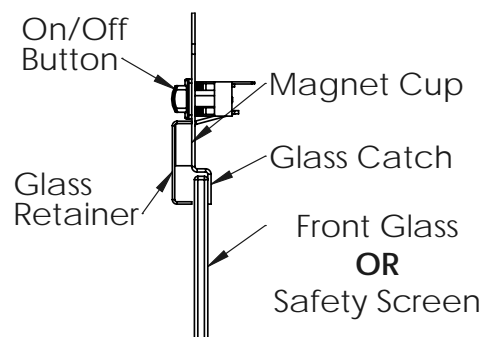

Figure 20: Installed Glass Side View
Note: The glass should sit back against the flange, below the bend as shown in Figure 20.
3. Reinstall the glass retainer. Make sure it is below the on/off button and pulled down tight to the magnet cups. (See Figure 20)
Note: The "Retainer" piece is fastened to the safety screen. When properly installed, **the retainer must sit below the heater outlet** and the on/off button and be held in place by the magnets similar to Figure 20.